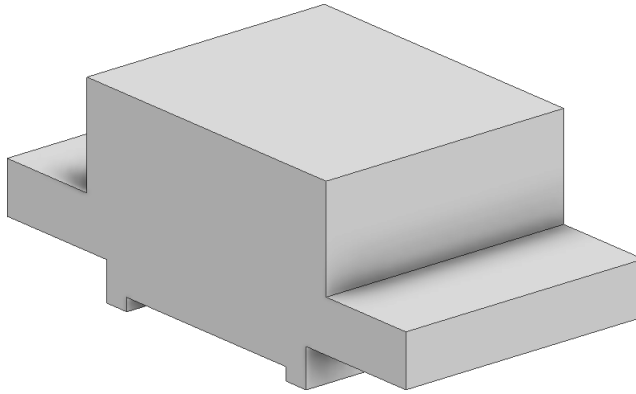

Figure 2-88 The model created on extruding the sketch
3. Choose **OK** from the dialog box to create the model and exit the **Properties-Extrusion** tool. The extruded model is shown in Figure 2-88.